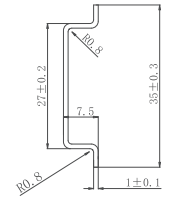

Figure 2. TH35-7.5 rail
7.3.1 TH 35-7.5 guide rail is installed, and the guide rail specification is shown in Figure 2.